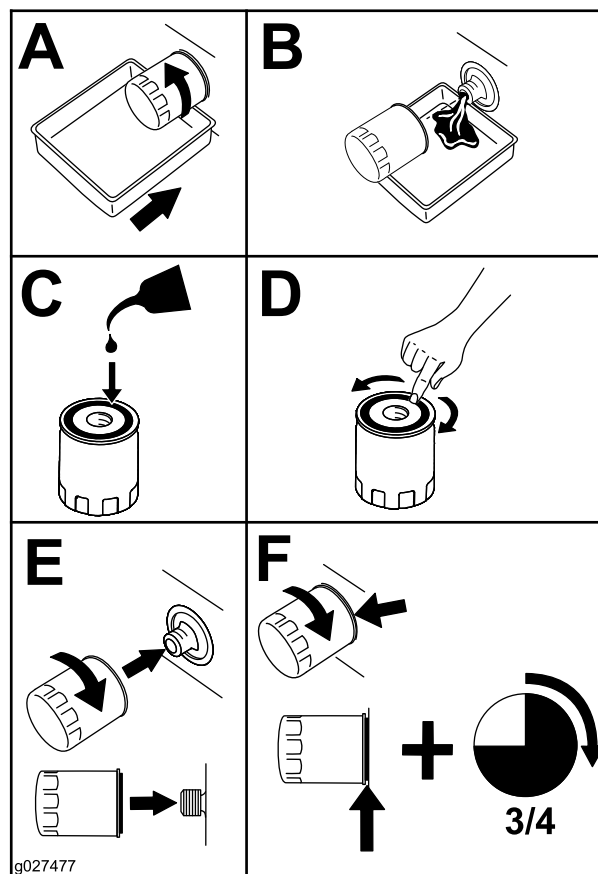

Figure 55
2. Change the engine oil filter (Figure 55).